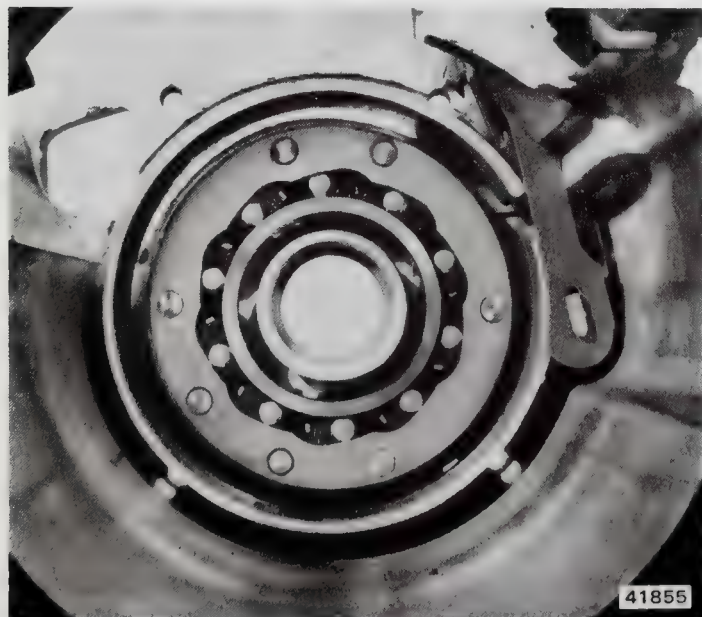

Fig. 2C-99 Overrunning Clutch and Rear Band Link Position
(1) Place transmission case in upright position and install clutch cam and spring retainer.
(2) Install clutch springs and rollers so springs rest against retainer post and rollers rest against springs, and with both springs and rollers installed on counter-clockwise side of spring retainer posts (fig. 2C-99).